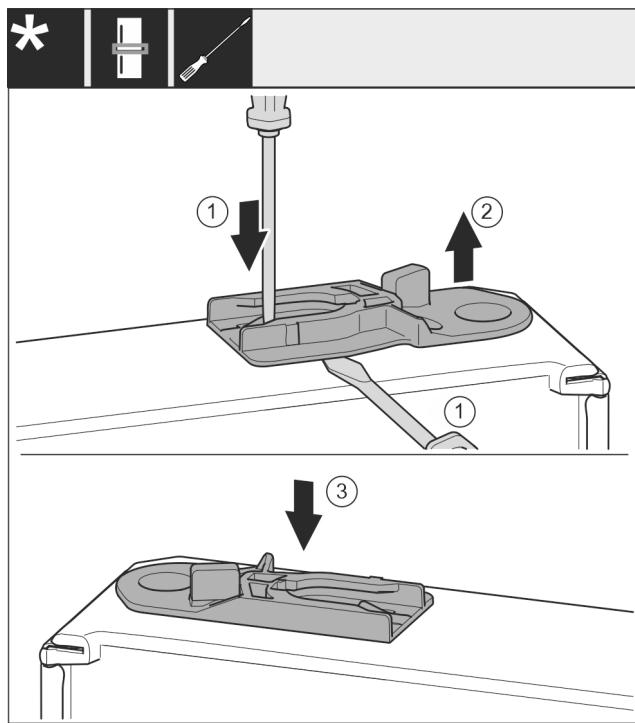

Fig. 41
Pull out the guide bushing: Press the tab *Fig. 41 (1)* with the slotted screwdriver while running the slotted screwdriver under the guide bushing *Fig. 41 (2)* at the same time.
Insert the guide bushing *Fig. 41 (3)* supplied in the scope of delivery on the other side of the housing.